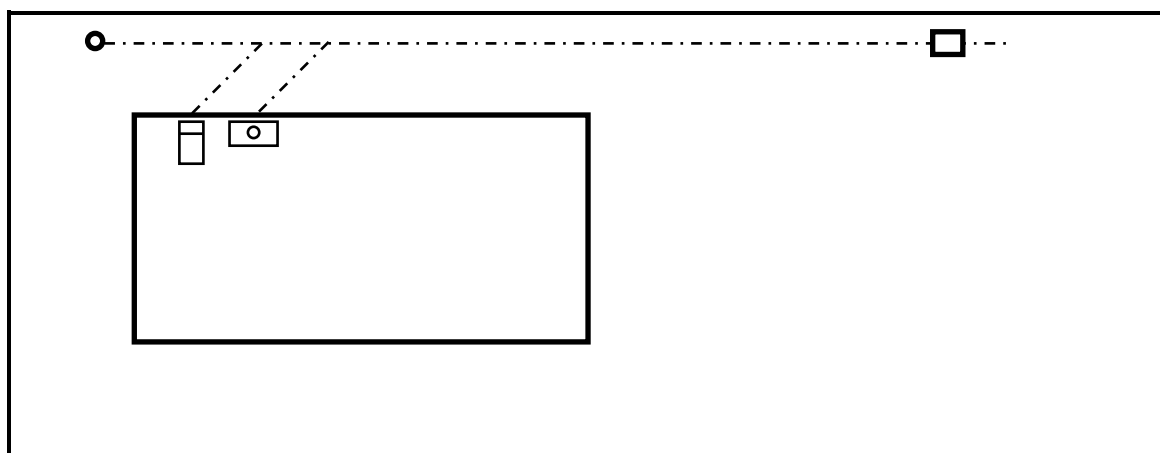

FIGURE 5.9
5.9 FIGURE 5.9 shows the drain lay-out, to scale 1 : 100, of a building with a length of 6 000 mm and width of 3 000 mm. Determine the following quantities for the drain system.